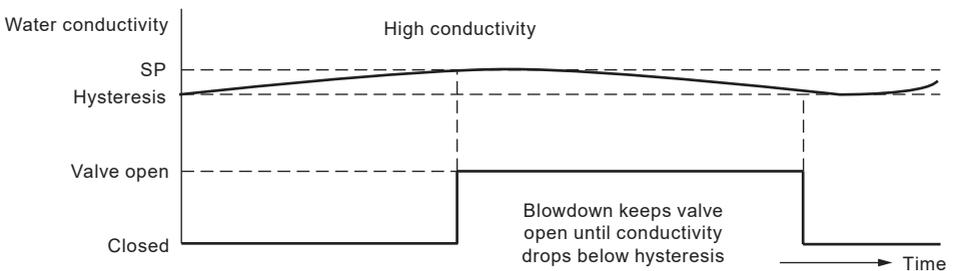

Fig. 19 ON/OFF control without purge
Used when the probe is mounted in the boiler. The probe is able to constantly monitor the conductivity from the probe tip to the boiler shell. When the TDS/conductivity value exceeds the set-point (SP) the valve will open and will remain open until the TDS/conductivity value drops below the hysteresis. See Figure 19.